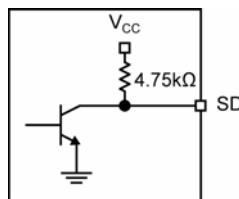

Figure 4. SD Output Structure
The SY88933AL generates a chatter-free SD open-collector TTL output with an internal  $4.75\text{k}\Omega$  pull-up resistor as shown in Figure 4. SD is used to determine that the input amplitude is large enough to be considered a valid input. SD asserts high if the input amplitude rises above the threshold set by  $\text{SD}_{\text{LVL}}$  and de-asserts low otherwise. SD can be fed back to the enable (EN) input to maintain output stability under a loss of signal condition. EN de-asserts the true output signal without removing the input signals. Typically, 3.4dB SD hysteresis is provided to prevent chattering.